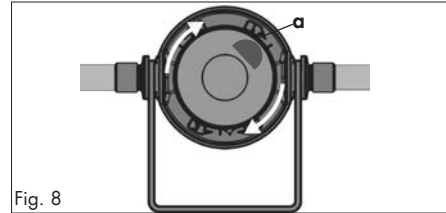

Fig. 8
2. There are four setting options for the bypass. The default bypass setting is „2“. The bypass can be set by pressing „a“ and then turning the cap left or right until the mark displays the required value and the cap snaps into place (Fig. 8).